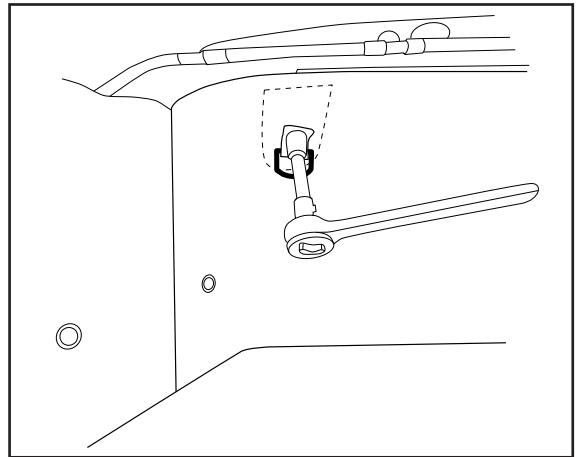

Fig. 4
5. Using 13mm socket to insert bolt/D-Ring assembly through the carpet liner into the aluminum body panel hole (Fig.4). Keep the bolt aligned with the hole, using firm hand pressure to thread the screw into the hole and **hand tighten snug** (x2).